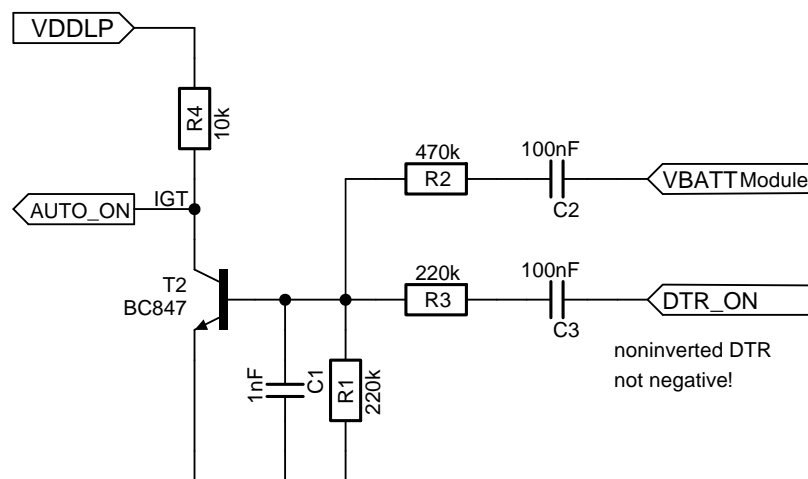
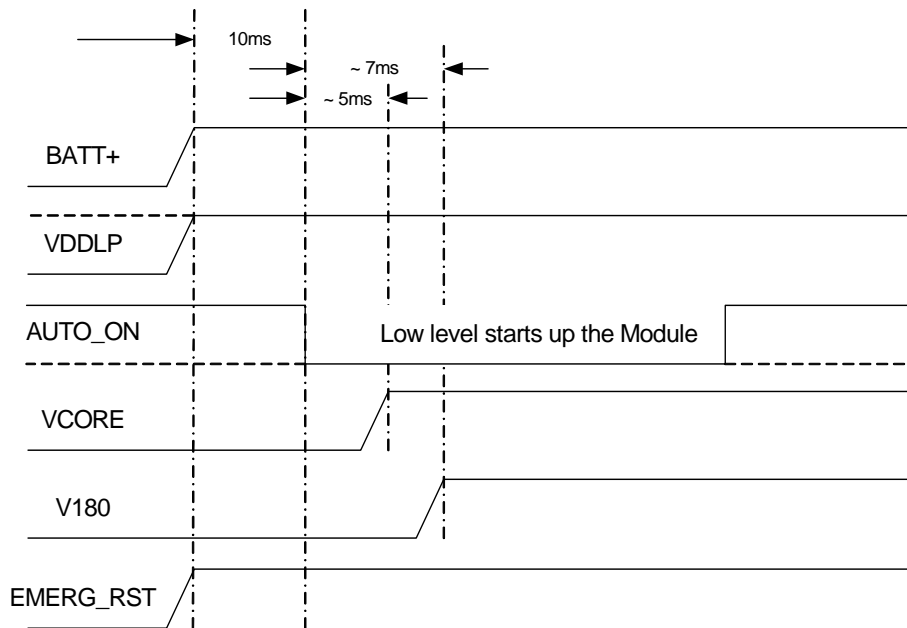

Figure 36: AUTO_ON circuit sample for automatic module switch on
Figure 37: AUTO_ON signal timing
- Figure 36 for an automatic module switch on. The circuit shown in Figure 37 is a recommended circuit for an automatic module switch-on in applications where no external micro-controller is present to control the switch-on otherwise. This circuit will allow a software controlled shutdown of module, e.g., by regular AT^SMSO command or a temperature shutdown, before disconnecting power.
Figure 37 shows the AUTO_ON signal timing.